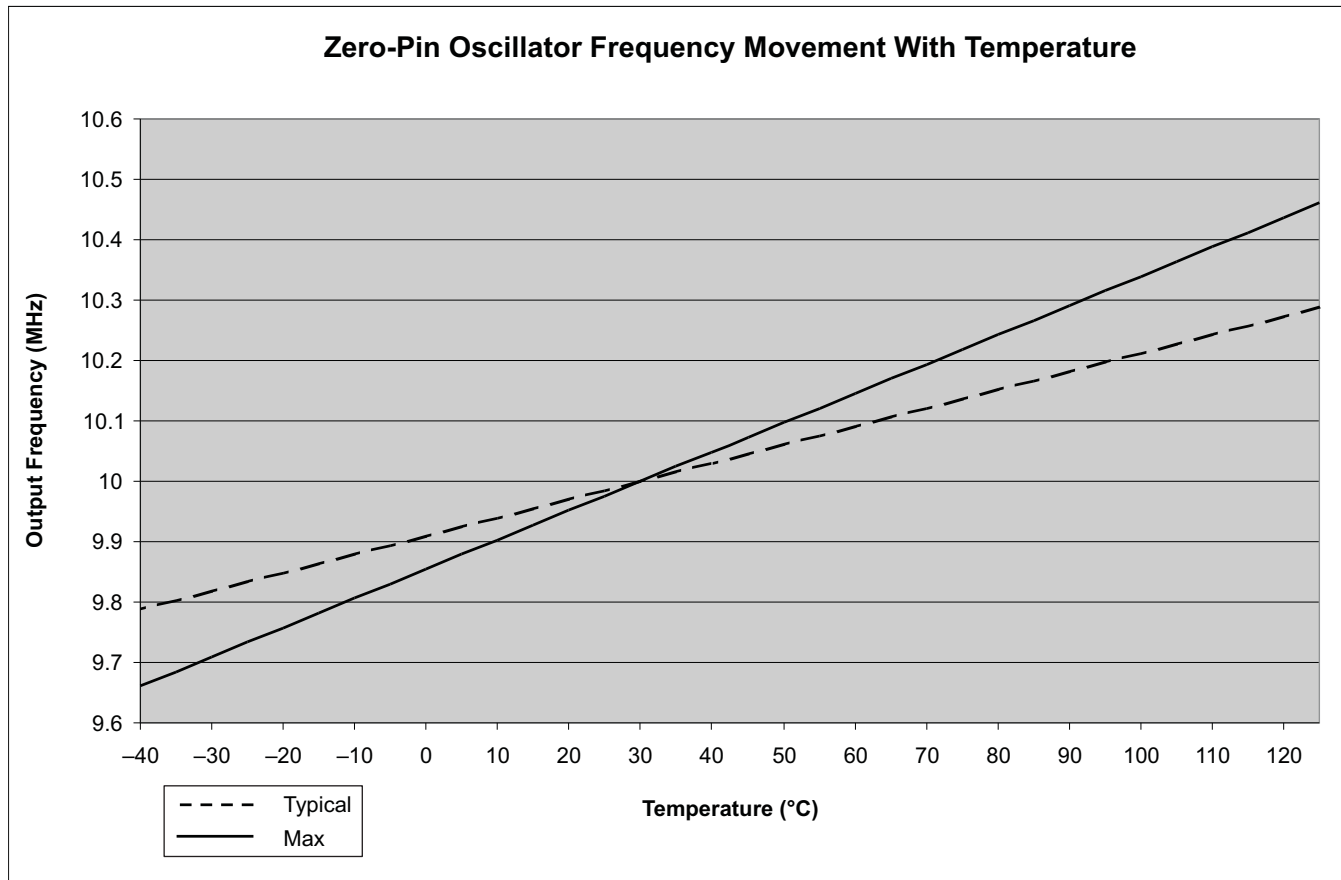

Figure 5-9. Zero-Pin Oscillator Frequency Movement With Temperature
- (1) In order to achieve better oscillator accuracy (10 MHz ± 1% or better) than shown, see the *Oscillator Compensation Guide Application Report* (SPRAB84). Refer to Figure 5-9 for TYP and MAX values.
- (2) Frequency range ensured only when VREG is enabled, $\overline{\text{VREGENZ}} = \text{V}_{\text{SS}}$.
- (3) Output frequency of the internal oscillators follows the direction of both the temperature gradient and voltage (V_{DD}) gradient. For example: